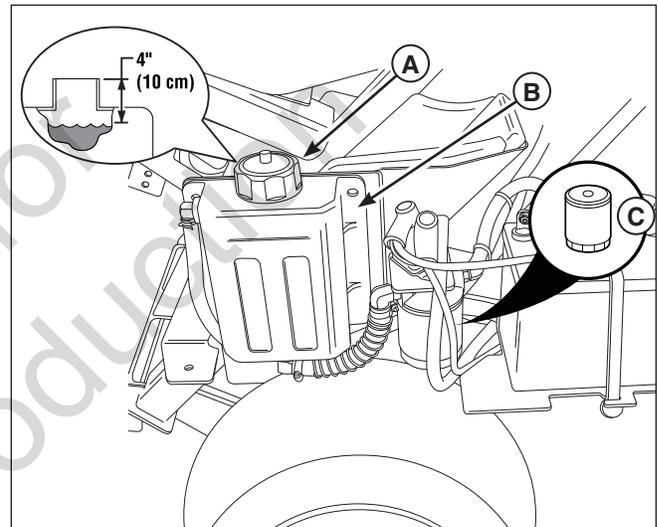

Figure 15. Servicing the Hydraulic System
2. Unscrew the reservoir cap (**A, Figure 15**).